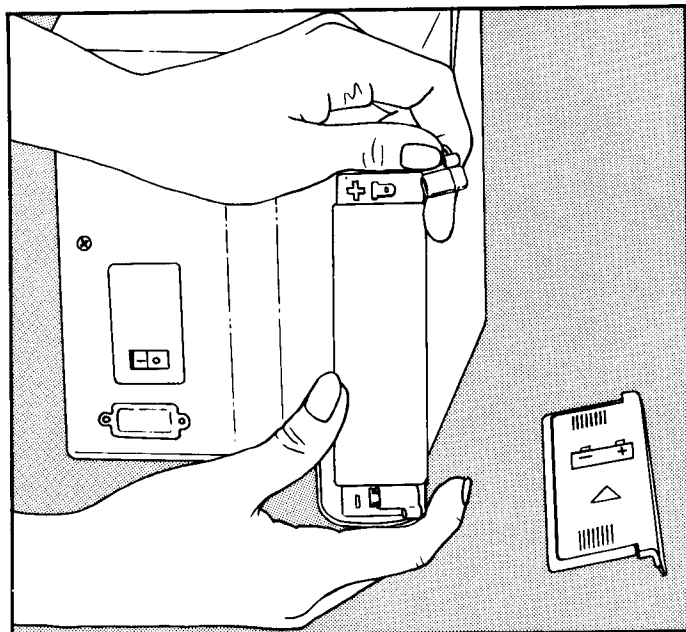

Figure 6-4. Remove Battery Cable Connectors
5. When the battery is free, remove the battery cable slip-on connectors as shown in Figure 6-4.